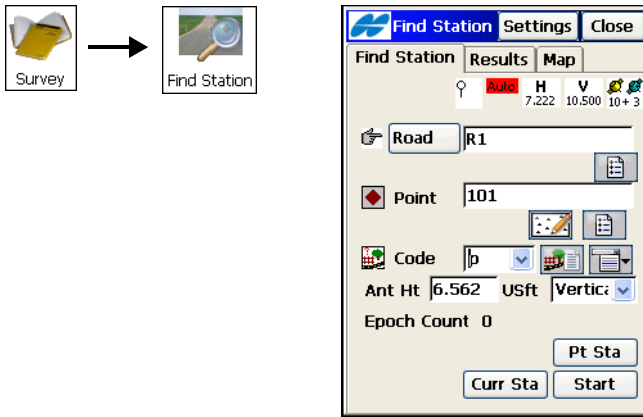

Figure 8-30. Find Station.
1. To start working, select the **Survey ► Find Station** icons (Figure 8-30 on page 8-29).
2. Enter the road, the name, and the code of the point and the antenna height and type (Figure 8-30 on page 8-29).
3. To compute the result with an existing point, tap the **Pt Sta** button (Figure 8-30 on page 8-29).
4. To compute the result with the coordinates of the current location without making an observation, tap the **Curr Sta** button (Figure 8-30).
5. To make an observation of the current location and store the coordinates to a point, and to compute the result with this point, tap the **Start** button (Figure 8-30).